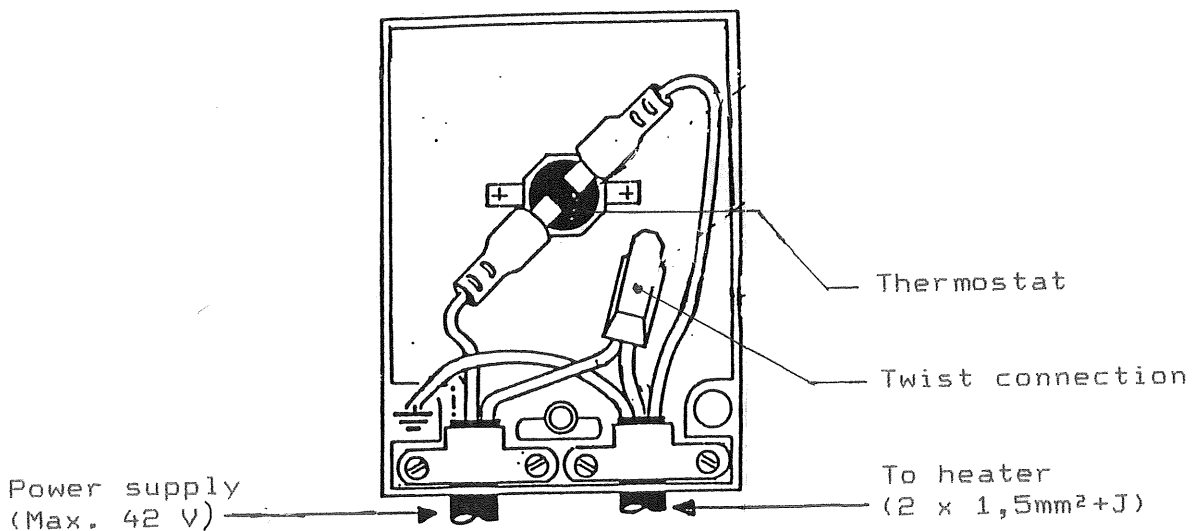

Fig. 16
- If the the new heater element does not work, check the thermostat and replace if defective. See wiring diagram inside the thermostat box, Fig. 16.